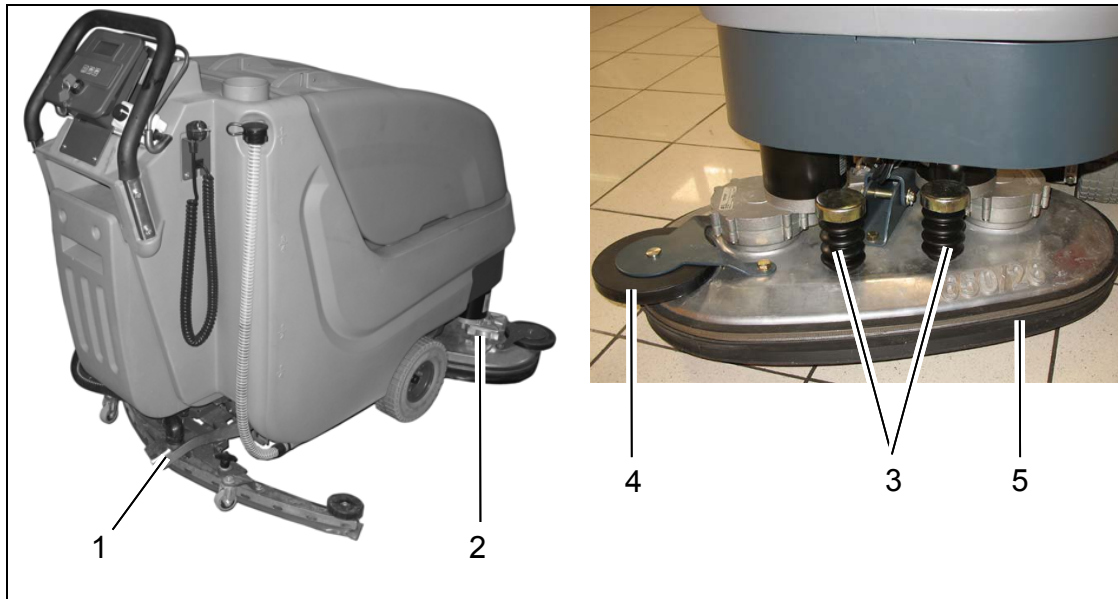

Fig.9
Clean brushes of the brush deck (Fig. 9/ 2) at daily intervals or as required.
1. Use pedal (Fig. 9/1) to lift up brush deck.
2. Press brush ejectors (Fig. 9/3) down to remove brushes for cleaning.
2. Press brush ejectors (Fig. 9/3) down to remove old brushes.
Check roller bumper(Fig. 9/4) at weekly intervals or replace as required.
Check sealing strip (Fig. 9/5) at weekly intervals or as required. Before doing so, open toggle-type fastener and remove sealing strip. Proceed to mounting in reverse order.